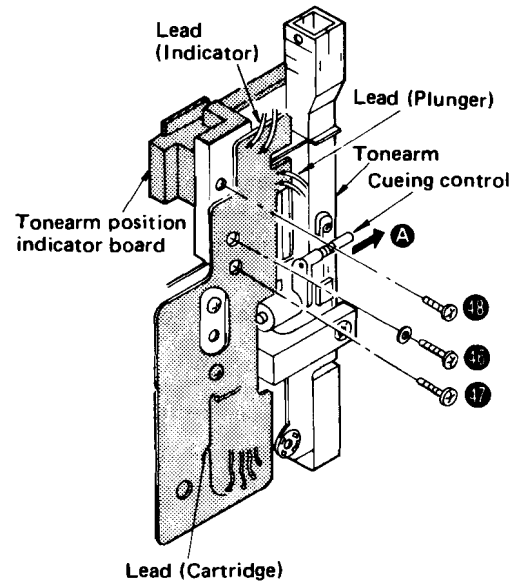

Fig. 16
2. Unsolder the 5 lead wires from the cartridge (Fig. 16).
2. Unsolder the 2 lead wires from the cueing plunger (Fig. 16)
3. Remove the 2 cueing control ass'y setscrews (Fig. 16: 46, 47), and the cueing control ass'y can be removed in the direction of the arrow A.
2. Unsolder the 2 lead wires from the indicator (Fig. 16).
3. Remove the tonearm position indicator board setscrew (Fig. 16: 48).